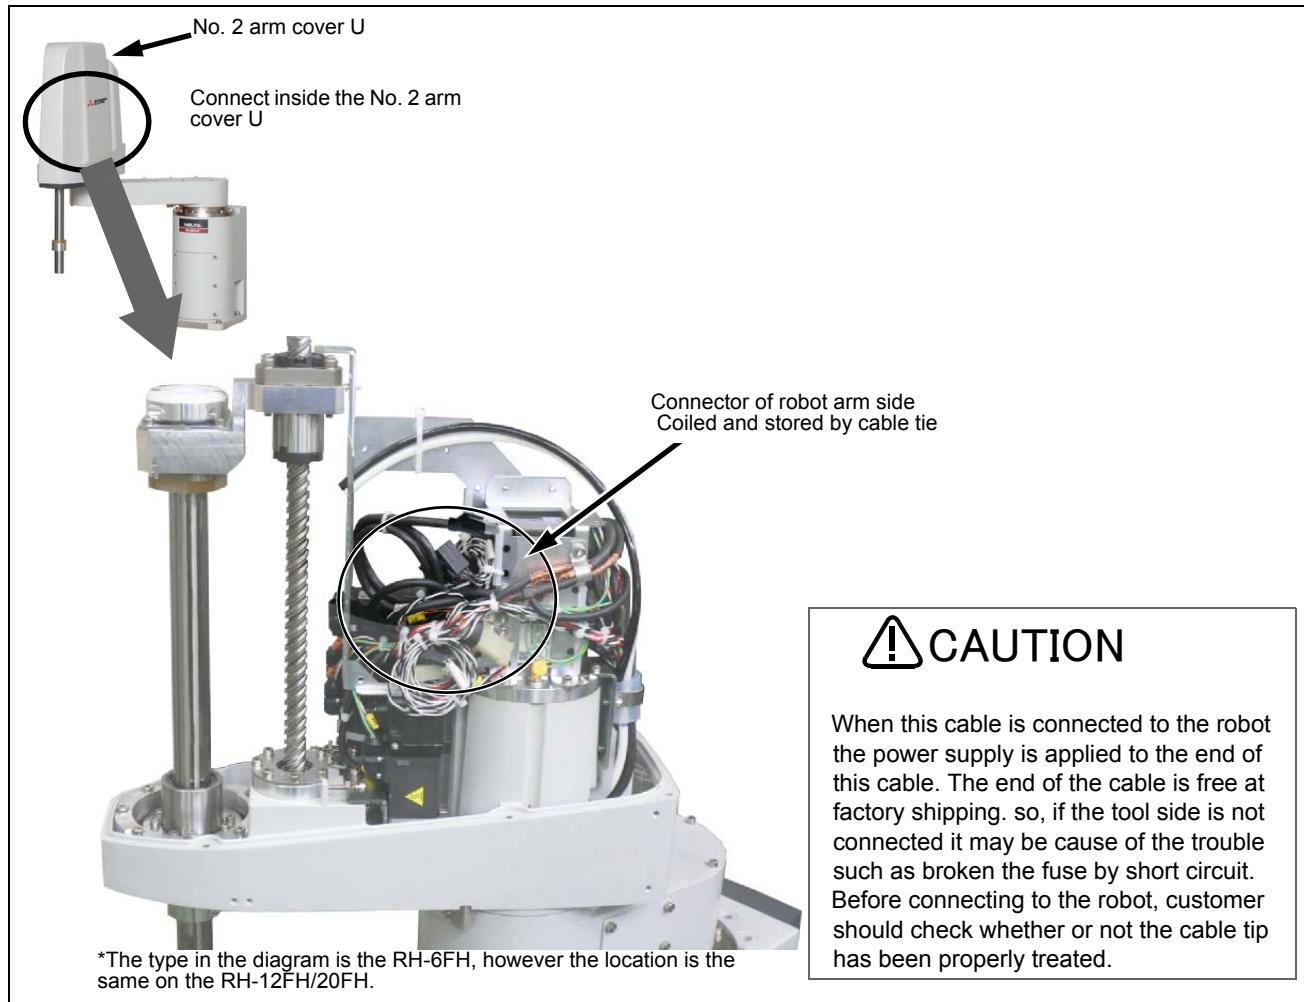

Fig.3-3 : Installing the hand input cable
Fig. 3-3 shows the hand input cable's storage location on the robot.
- 2) The hand input cable is stored in the location shown in Fig. 3-3. Pull out and check the connectors (HC1, HC2).